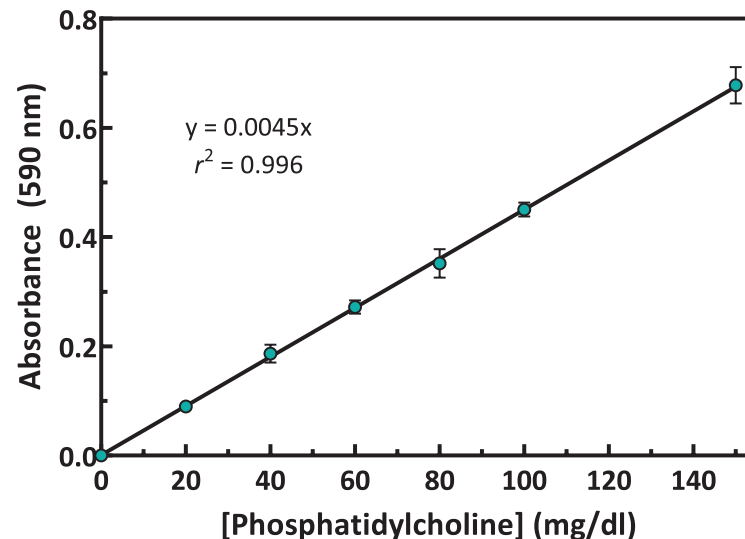

Figure 4. Phosphatidylcholine standard curve
3. Graph the CAV of the standards as a function of the final phosphatidylcholine concentration (mg/dl) from Table 1. See Figure 4 (on page 15) for a typical standard curve.
The standard curve presented here is an example of the data typically provided with this kit; however, your results will not be identical to these. You must run a new standard curve - do not use Figure 4 to determine the values of your samples.